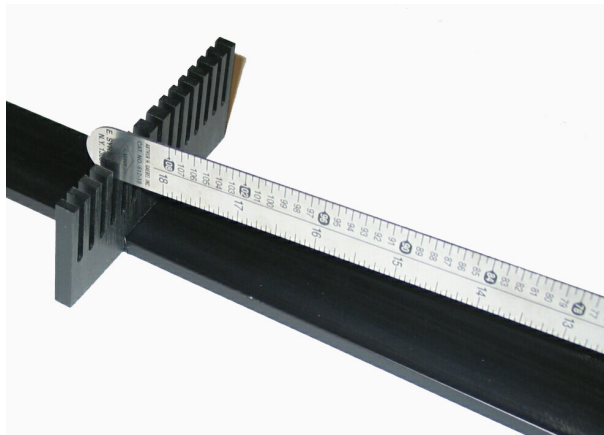

Figure 4.8: Flexible Link Tip Displaced by 1 inch in the Counter-clockwise Direction
7. **Gain adjustment:** The strain gage should read 1 V per 1 inch of tip deflection. Each slot or tooth in the calibration comb corresponds to a tip displacement of $\frac{1}{4}$ inch. Move the tip 4 slots in the counter-clockwise direction as shown in Figure 4.8. The strain gage measurement should be reading 1 V. If not, gently adjust the **GAIN** potentiometer until it reads 1 V.